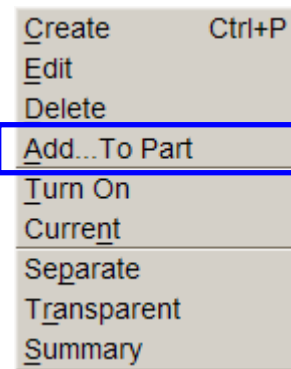

Figure 40: Preprocess menu
5. Click on **Parts**→**Add... To Part** on **Menu bar**. See Figure 40.